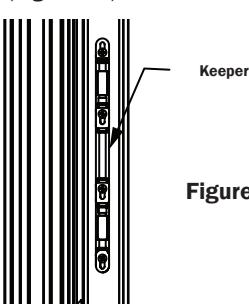

Figure 11
13. Using the dimples as a guide, install the keeper to the panel with the dummy handle using the (4) #8 x 1-1/4" pan head screws. Adjust the keeper up or down until the latch engages properly, (Figure 11).